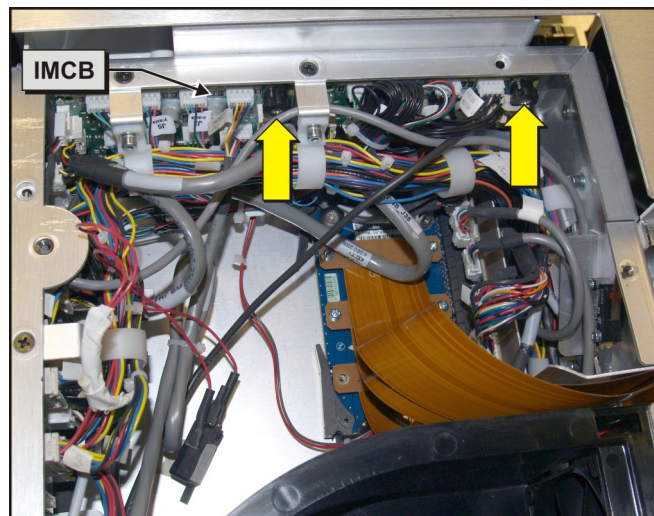

Figure 5-56 Remove IMCB
3. Loosen the captive screw securing the IMCB board. Pull the captive screw up after it is loosened. (**Figure 5-56**)